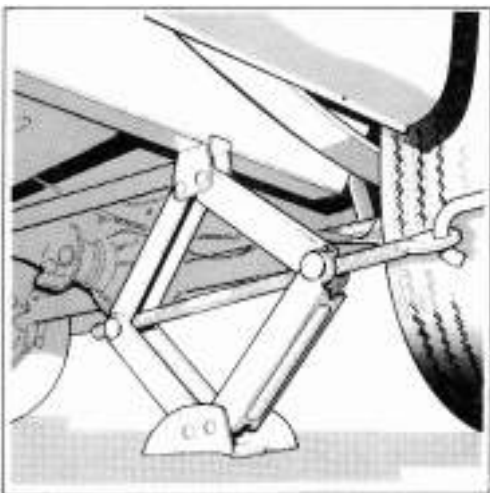

Figure 40 Jacking position - rear
- 7 Jack up the vehicle until one rear wheel is clear of the ground. (**Figure 40**).
The recommended rear jacking point is at the extreme rear end of the longitudinal frame member. (Figure 40).